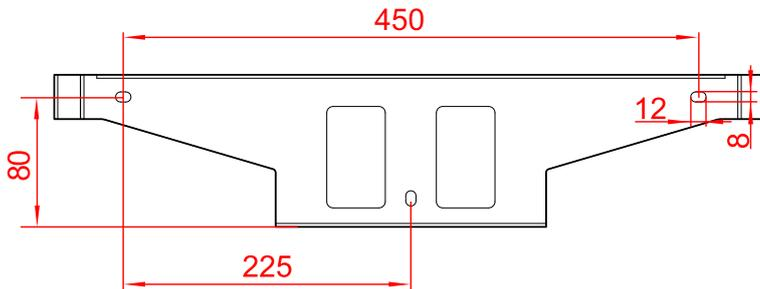
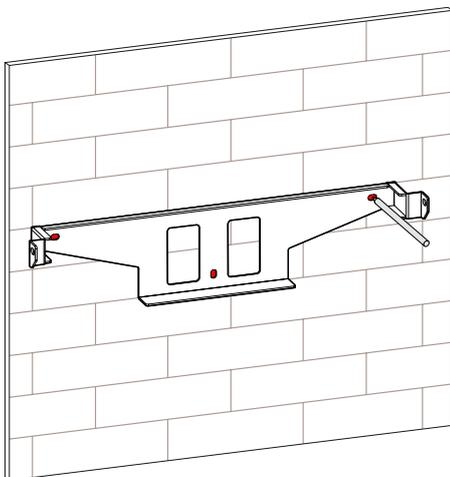

Figure3-9 Installation size (unit: mm)
Figure3-10 Mark the drilling position
Step 2 Mark the position of installation holes on the wall according to the dimensions of the fixing holes of the installation holder (as shown in Figure3-9), and drill three holes of  $\Phi 10.5\text{mm}$  on the wall according to marked position, as shown in Figure3-10.